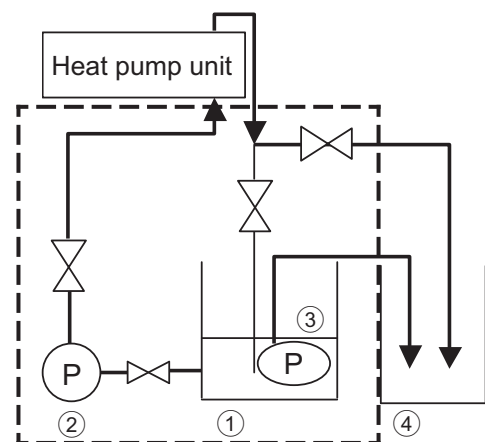
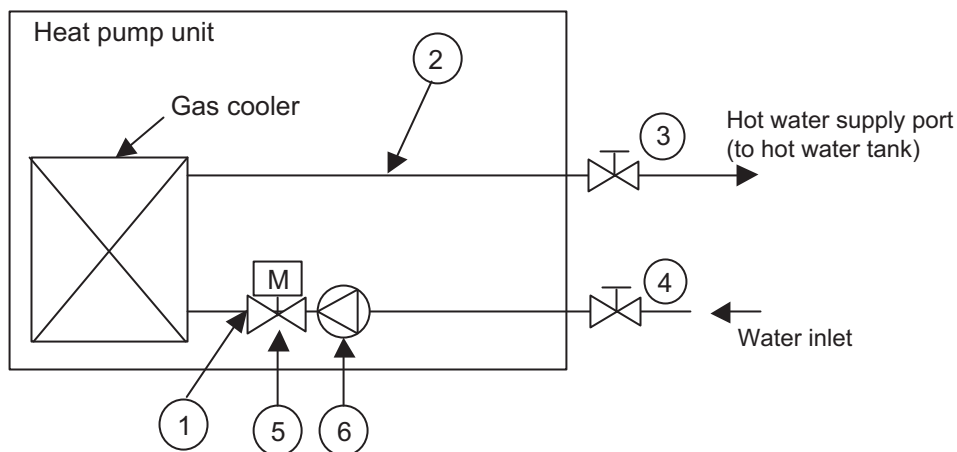

Figure 1 Cleaning device (inside the dashed lines)
Figure 2: Valves to be closed and connections of cleaning water circuit
<p>Calculate the amount of refrigerant oil that flows out of the compressor (inside the QAHV unit) by weighing the compressor so that the total amount of the refrigerant oil in the unit will be 2.7 kg (= 2.7 ʘ). To adjust the oil level, follow the steps (1) through (5) below.</p> <p>Necessary tools</p> <ul style="list-style-type: none"> • A scale • Rubber plugs (Use the rubber plugs attached to the replacement compressor.) <p>Note</p> <ul style="list-style-type: none"> • Tolerance of the amount of extracted oil should be within ± 0.1 kg (± 0.2 lbs). <div style="display: flex; justify-content: space-around;"> <div data-bbox="245 439 794 779"> <p>Oil-return pipe</p> <p>Oil-return strainer</p> <p>Cut here.</p> </div> <div data-bbox="911 439 1289 779"> <p>Rubber plug</p> <p>Terminal cover</p> <p>Rubber plug</p> </div> </div> <p style="text-align: center;">Figure 1. Where to cut the oil-return pipe Figure 2. Components to be weighed</p>
<p>[Steps]</p> <p>7</p>	<p>Measuring the weight of the service parts compressor: Weight measurement value A</p> <p>(1) Weigh the compressor as shown in Fig. 2.</p> <ul style="list-style-type: none"> • Reference weight of service parts compressor is 65.1 kg (143.5 lbs). <p>Measuring the weight of the removed compressor: Weight measurement value B</p> <p>(2) Weigh the compressor under the following conditions.</p> <ul style="list-style-type: none"> • Cut the oil-separator pipe of the oil separator as shown in Fig. 1, and include the oil flowing out from the oil circuit in the weight measurement value A. (Receive the oil in a container, and return it to the compressor from the suction pipe.) • Include the components shown in Fig. 2 (remove the cut oil-separator pipe by heating) and the rubber plugs for discharge, suction, oil-separator, and injection pipes (use the rubber plugs for replacement compressors) in the measurement. • Include the compressor terminal cover in the weight measurement. <p>Calculating the outflowing refrigerant oil from the replaced compressor (remaining in QAHV): Calculated refrigerant oil outflow C</p> <p>(3) Calculated refrigerant oil outflow from the compressor (remaining in QAHV unit) C = Weight measurement value A + 0.4 kg (0.9 lbs) - Weight measurement value B</p> <p>Ex) When the weight measurement value A is 65.1 kg (143.5 lbs) and the weight measurement value B is 64.1 kg (141.3 lbs), Calculated refrigerant oil outflow C = 65.1 kg (143.5 lbs) + 0.4 kg (0.9 lbs) - 64.1 kg (141.3 lbs) = 1.4 kg (3.1 lbs)</p> <p>Calculating the refrigerant oil to be drained from the replacement compressor: Refrigerant oil drainage amount D</p> <p>Refrigerant oil drainage amount D = Calculated refrigerant oil outflow from the compressor (remaining in QAHV) C - 0.7 kg (1.55 lbs)</p> <p>Note 1 and Note 2</p> <p>Ex) When the result of outflow refrigerant oil C is 1.4 kg (3.1 lbs), Refrigerant oil drainage amount D = 1.4 kg (3.1 lbs) - 0.7 kg (0.9 lbs) = 0.7 kg (1.55 lbs) Therefore, drain 0.7 kg (1.55 lbs) of refrigerant oil from the replacement compressor.</p> <p>(4) Note 1: "-0.7" (1.55) in the equation above is a value that corrects the amount of refrigerant oil charged to the compressor at the time of shipment and the amount of refrigerant oil charged to the replacement compressor.</p> <p>Note 2: Due to the structure of the compressor, a minimum of 1 kg (2.2 lbs) of oil will remain in any failed compressor (the amount of outflow of the oil is always 1.4 kg (3.1 lbs) or less). If the calculation result of the refrigerant oil drainage amount C is greater than 0.7 kg (1.55 lbs), the weight measurement is incorrect. Drain 0.7 kg (1.55 lbs) of refrigerant oil from the compressor. If the calculation result of the refrigerant oil drainage amount C is 0.7 kg (1.55 lbs) or less, drain that amount.</p> <p>Adjusting the refrigerant oil of the replacement compressor</p> <p>(5) When draining the refrigerant oil from the compressor and adjusting the oil level, slowly tilt the compressor with the suction pipe facing down to drain the refrigerant oil from the suction pipe.</p>
Items to prepare (Inside the dashed lines in Figure 1 is the cleaning device.)
Figure 2 symbol explanation
Cleaning water circuit is connected to the unit at the hot water supply port on the back of Heat pump unit ① and at the gas cooler inlet in the front of the Heat pump unit ② as shown in Figure 2.
Cleaning solution flows through the pipe indicated as ②, gas cooler, and then the pipe indicated as ① in Figure 2.